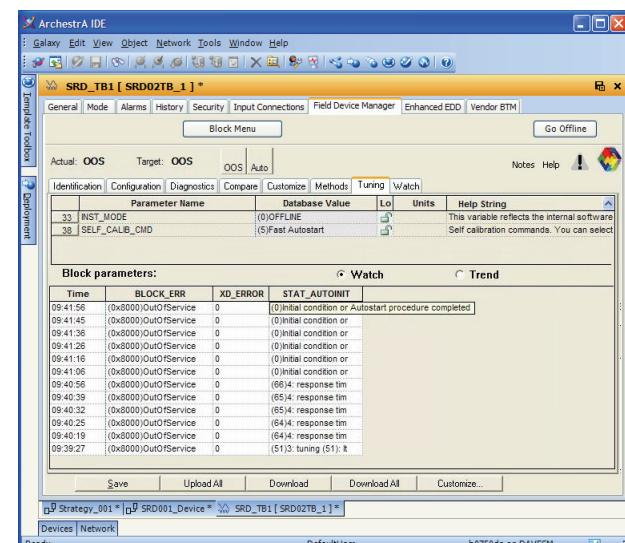

Figure 15. Monitoring Tuning Changes
- Tuning tab (Figure 15) is an on-line display having an upper portion that allows setting parameters in the device block and a lower portion where the response of up to eight dynamic parameters can be watched in either tabular or trend format. Typically, the set parameter is not a static parameter (that is, configured once), but rather a state command or tuning type parameter. In the Figure 15 example, the user has given a valve positioner an autostart command to begin the valve's self-calibrate routine, and is now watching the auto initiate status, block errors and transducer errors in the lower half of the tab.